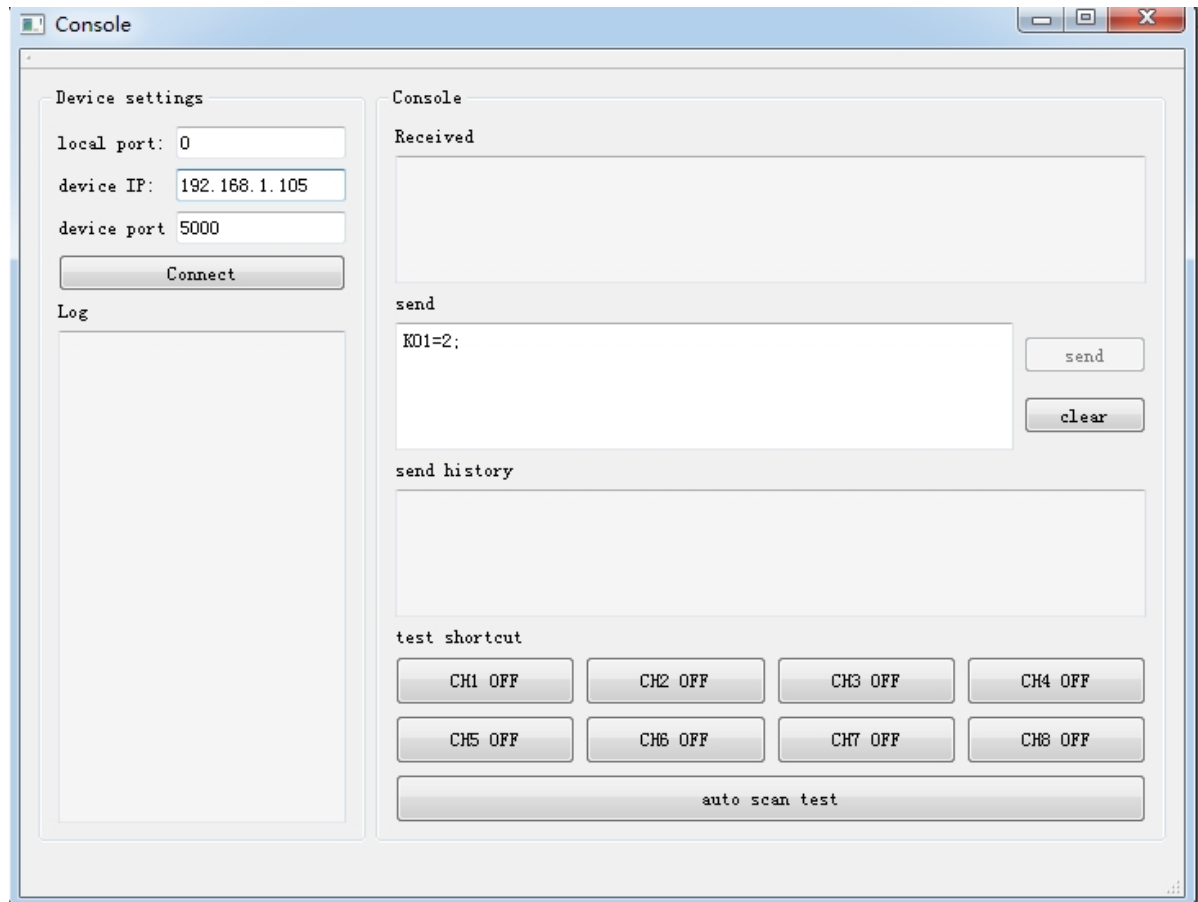

Fig.1.2
2. Open any TCP test tool(if you don't have any, or you don't know what a TCP test tool is, you can use **BE-Manager**, it is within our software package). Open it and see the following **Fig.1.2**: